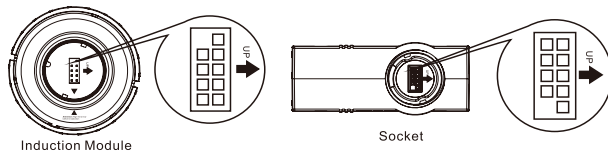

Figure 28
Step 2: Insert the induction module into the sensor socket. Note that the direction should be aligned as shown.(Figure 28)